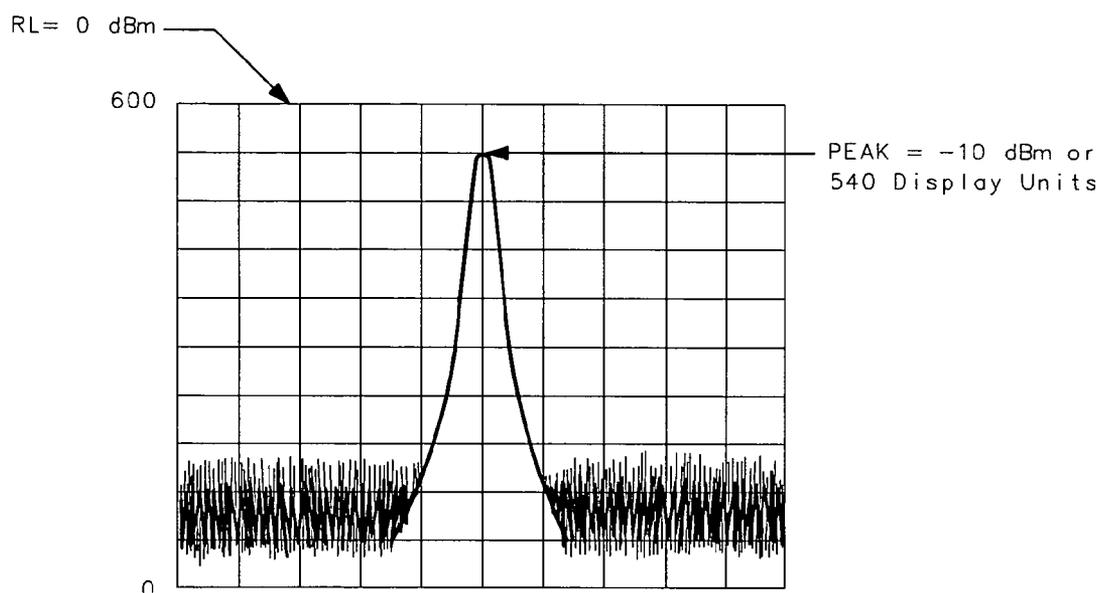

Figure 4-5. Data Transferred in TDF M Format
The measurement units (M) format transfers trace data as ASCII integer values in measurement units, which is the internal format used by the spectrum analyzer. See Figure 4-5. The displayed amplitude of each element falls on one of 601 vertical points (with the 601st equal to the reference level). For example, the peak of the signal in Figure 4-5 is equal to  $-10$  dBm, or one division below the reference level. This is equal to 540 measurement units (600 measurement units at the reference level, less 60 measurement units for one division down, equals 540 measurement units). There are also ten additional points of overrange. Measurement units, then, range from 0 to 610.